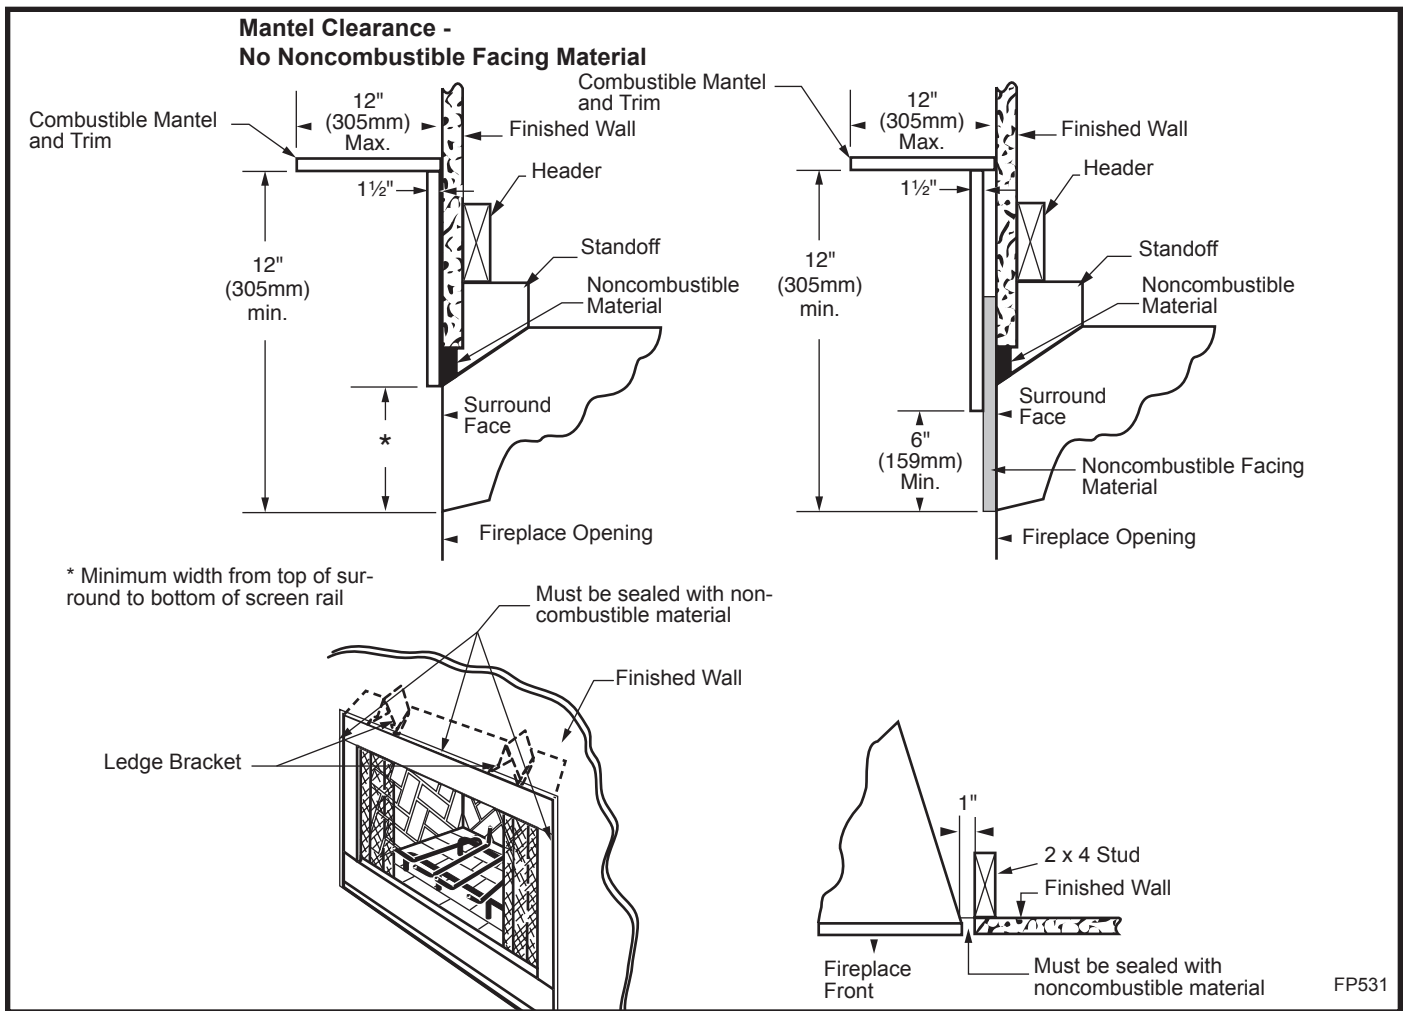

Fig. 24 Mantel clearances.
Finish the wall with material of your choice. **Do not install a combustible mantel shelf less than 12" (305 mm) from the top of the fireplace opening. Do not install a mantel face plate less than 6" (154 mm) from top of fireplace opening. (Fig. 24)** If a combustible material is used below a flat mantel shelf, consult your local building codes for minimum clearance from top of fireplace opening to bottom of mantel shelf.
**WARNING: HEARTH EXTENSION MUST BE INSTALLED IN ACCORDANCE WITH FIGURE 24.**